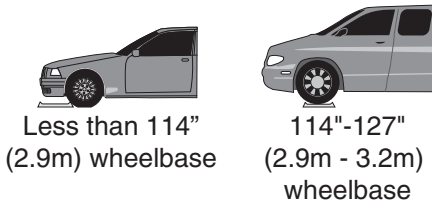

Fig. 6
- Drive over superstructure and spot vehicle with left front wheel in proper spotting dish position as shown in Fig. 6.